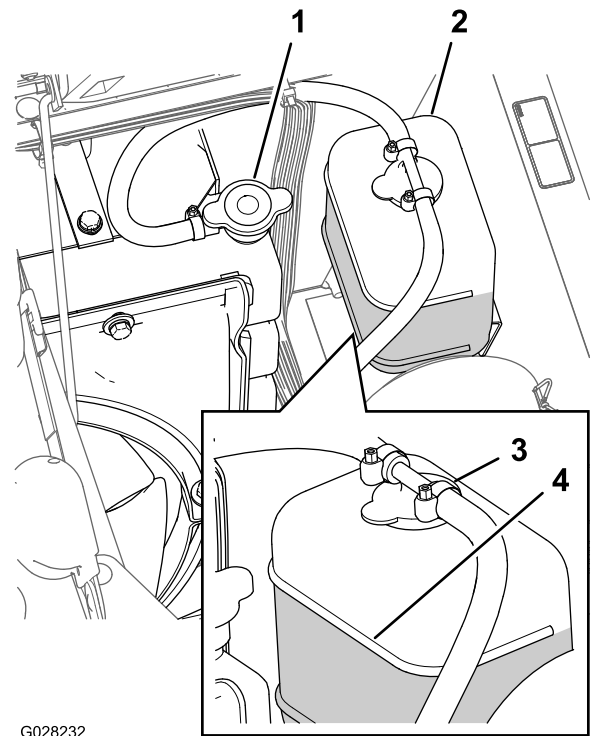

Figure 90
3. Carefully remove the radiator cap and the expansion-tank cap (Figure 90).
Note: The radiator should be filled to the top of the filler neck and the expansion tank filled to the Full mark on the tank (Figure 90).
5. If the coolant level is low, remove the expansion-tank cap and the radiator cap, and fill the expansion tank to the Full mark and the radiator to the top of the filler neck (Figure 90).
6. Install the radiator cap and the expansion-tank cap (Figure 90).
2. Wait until the engine is cool, then remove the radiator cap (Figure 90).
6. Remove the radiator cap (Figure 90).
8. Start the engine with the cap loose on the radiator (Figure 90).
10. Once the coolant has warmed up, top off the coolant level to the sealing surface of the cap and tighten the cap (Figure 90).
11. Open the expansion-tank cap and fill the tank with coolant to the Cold level (Figure 90).